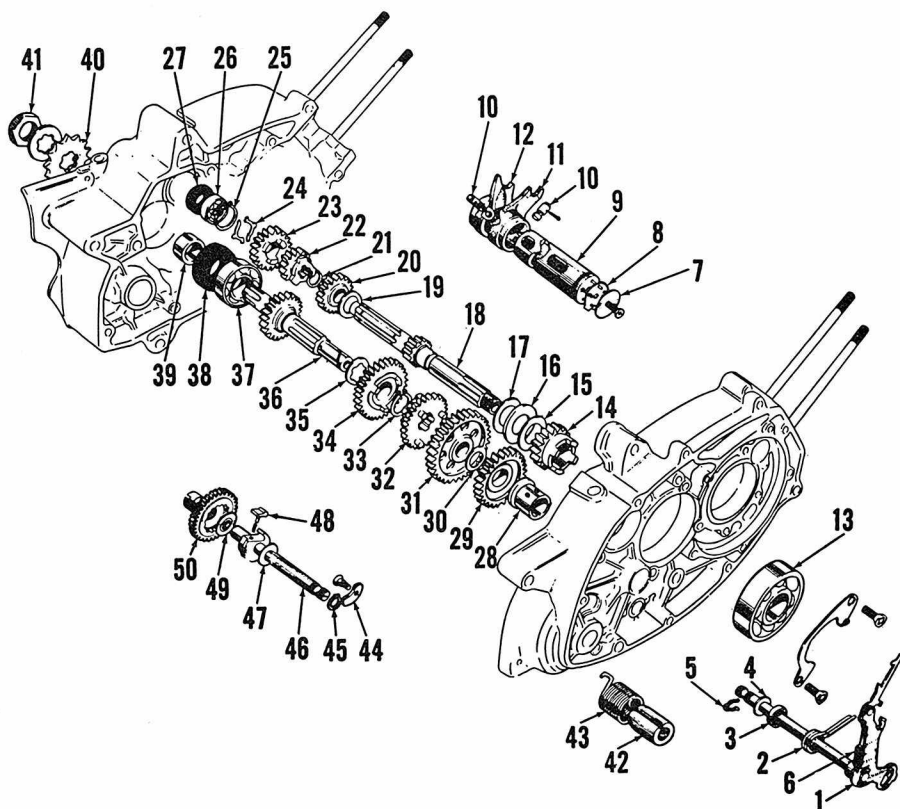

Fig. S2-18—Exploded view of the transmission and kick starter assembly.
Clearance between shifter forks (11 & 12—Fig. S2-18) and grooves in gears (22 & 32) should be 0.008-0.016 inch. If clearance exceeds 0.032 inch, renew fork and/or gear. When renewing bushing (28), make sure that oil holes are in open top part of right crankcase. Crankcase halves should be heated when removing and installing bearings. Oil seal (38) should be installed with open face toward inside. Be careful not to damage or roll the small sharp outside lip on seal (38)
Fig. S2-19—View of fourth gear positioning pieces and snap ring (23, 24 & 25—Fig. S2-18) assembled. Split in positioning pieces and opening in snap ring should not be aligned.